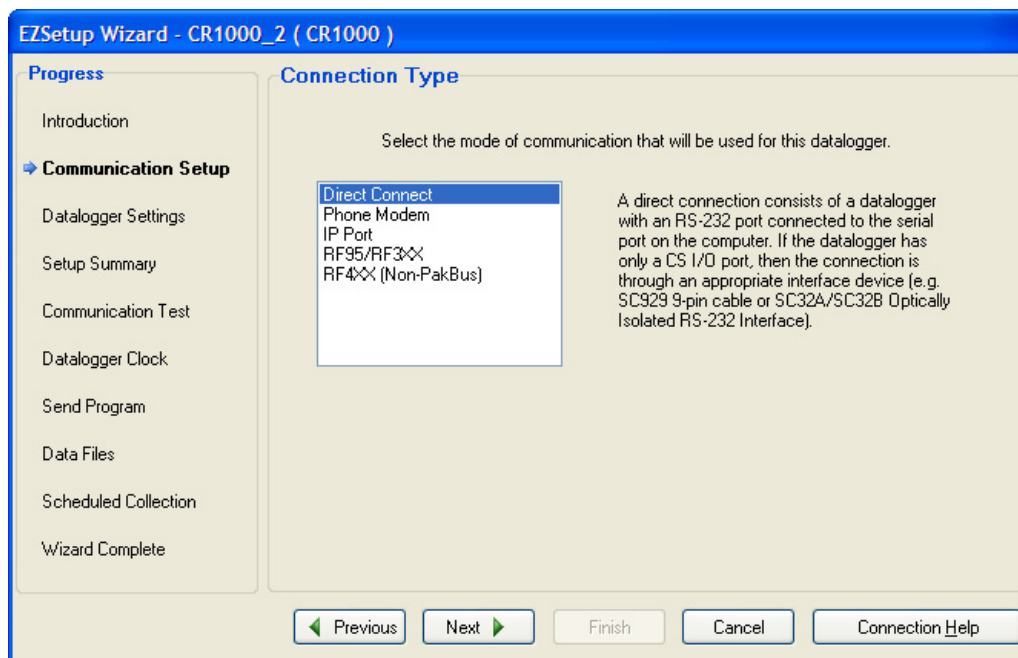

FIGURE 3-2. Point-to-Point or PakBus communications, select direct connect as the connection type.
- a. The next step is to run LoggerNet and configure it to connect to the datalogger via the radio’s point-to-point or PakBus network you have set up. For point-to-point and PakBus communications, the radios are represented as direct connect in LoggerNet (see FIGURE 3-2). Refer to Section 5.2, *LoggerNet* (p. 29), for the LoggerNet setup of point-to-multipoint.